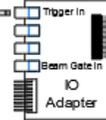

Figure VII.1 The setup for the Bias Curve and Bias Gate Test.
1. Ensure that a 15 Hz trigger and the other connections are as shown in Figure VII.1.